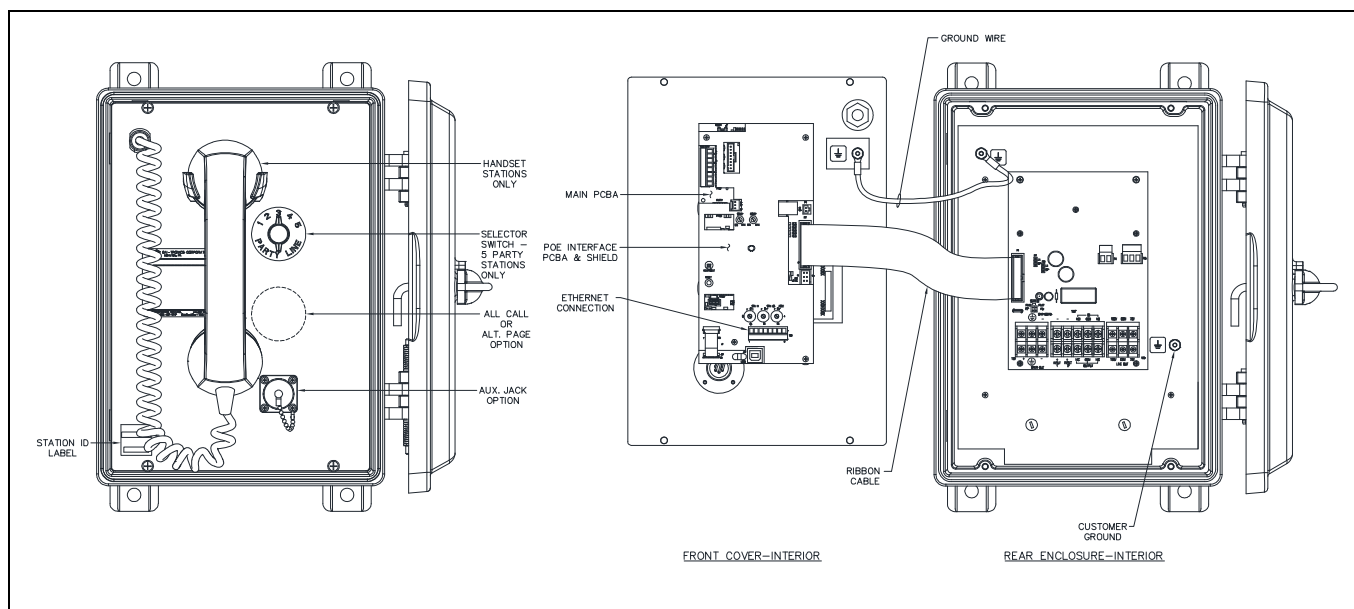

Figure 1. SP2 PoE Weatherproof Handset/Speaker Amplifier Station
This guide covers the installation of SP2 PoE weatherproof handset/speaker amplifier stations (see Figure 1). Refer to Publication 42004-789 for detailed explanations of available configuration options and adjustments, system specifications, and warranty information. GAI-Tronics' product documentation is on the GAI-Tronics website at <https://www.gai-tronics.com>.
2. Secure it to the ground terminal located in the lower right corner at the back of the rear enclosure (see Figure 1).